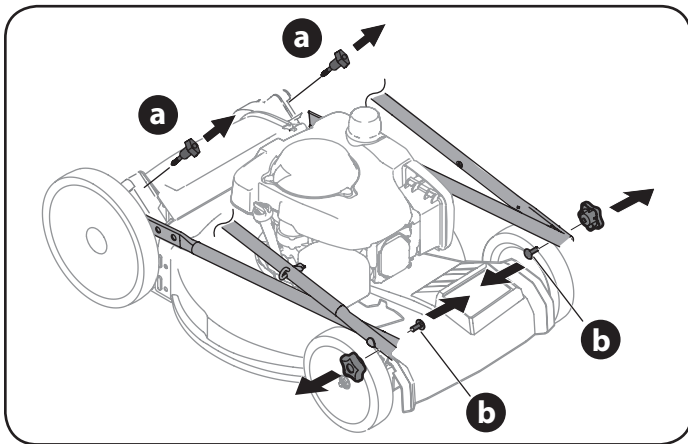

Figure 1
- a. Remove the T-bolts from the handle brackets as shown in Figure 1.
- b. Remove wing nuts and carriage bolts handle as shown in Figure 1. Do not loosen or remove adjacent hex head screws.